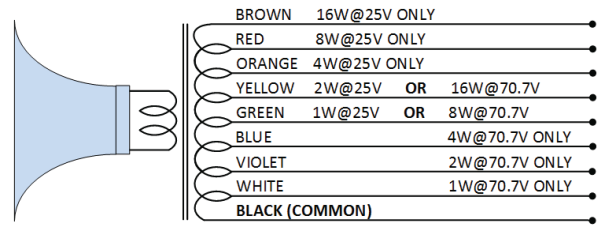

FIGURE 2
- B) Connect the audio source field wiring to the desired paging horn tap power level. See **FIGURE 2** for paging horn tap power level for each color coded wire. Use UL Listed connectors to secure the wires together to meet local code and AHJ requirements.